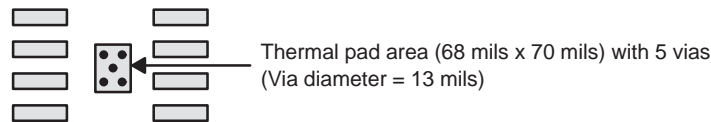

Figure 38. PowerPAD PCB Etch and Via Pattern
1. Prepare the PCB with a top side etch pattern as shown in Figure 38. There should be etch for the leads as well as etch for the thermal pad.